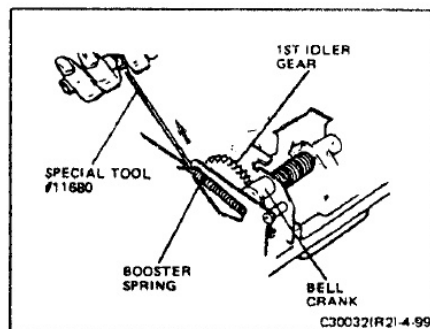

FIGURE 4-99 REMOVING BOOSTER SPRING
7. Use Special Tool #11680 to catch the end of the booster spring. Stretch the spring just enough to unhook the end of the spring from the outer plate (Figure 4-99).
- Reconnect the booster spring (Figure 4-99).